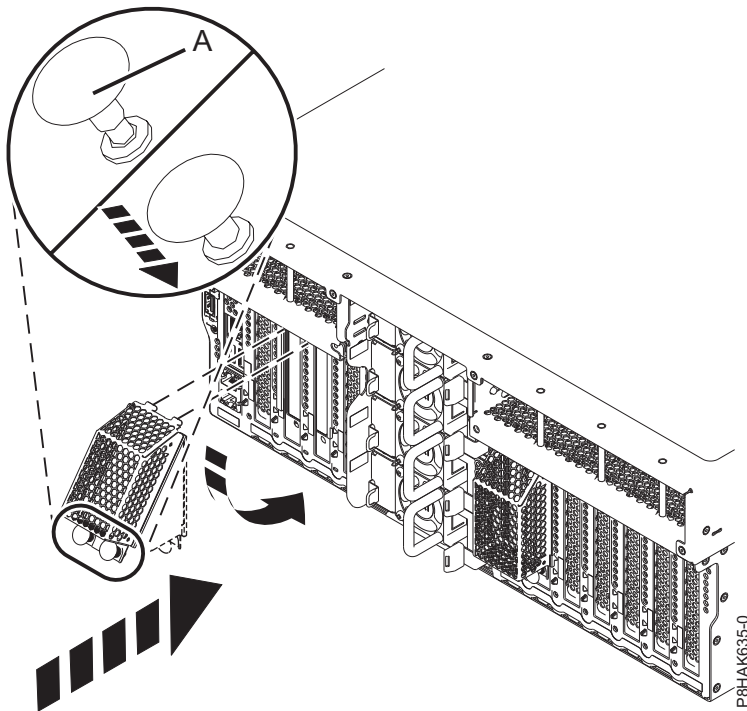

Figure 45. Attaching the protective shield to the GPU adapter
- a. If the locking button **(A)** is not already in the open position, pull out the locking button **(A)** in to the open position. See Figure 45 on page 48.
- c. Press the locking button **(A)** in the direction that is shown in Figure 45 on page 48 to lock the shield in place.